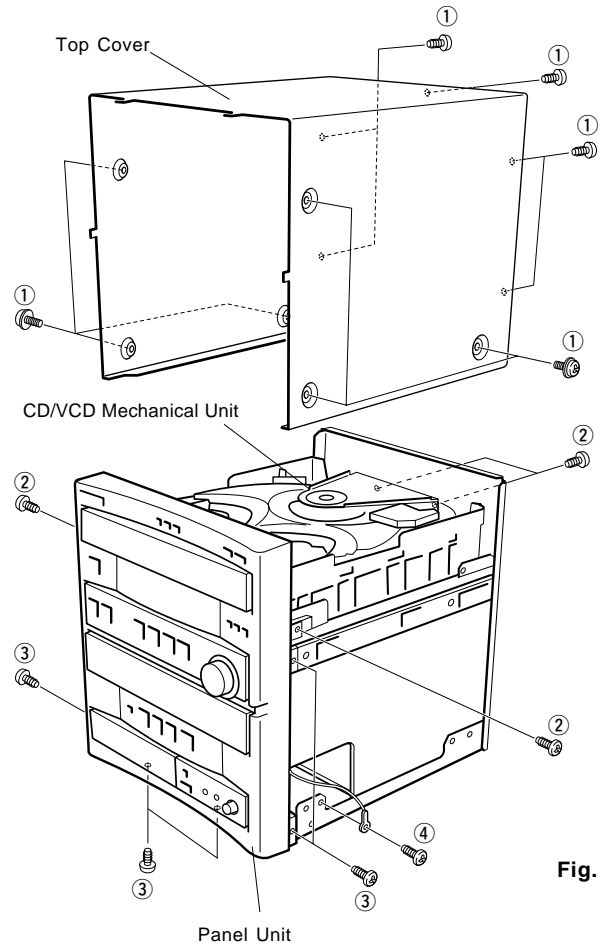
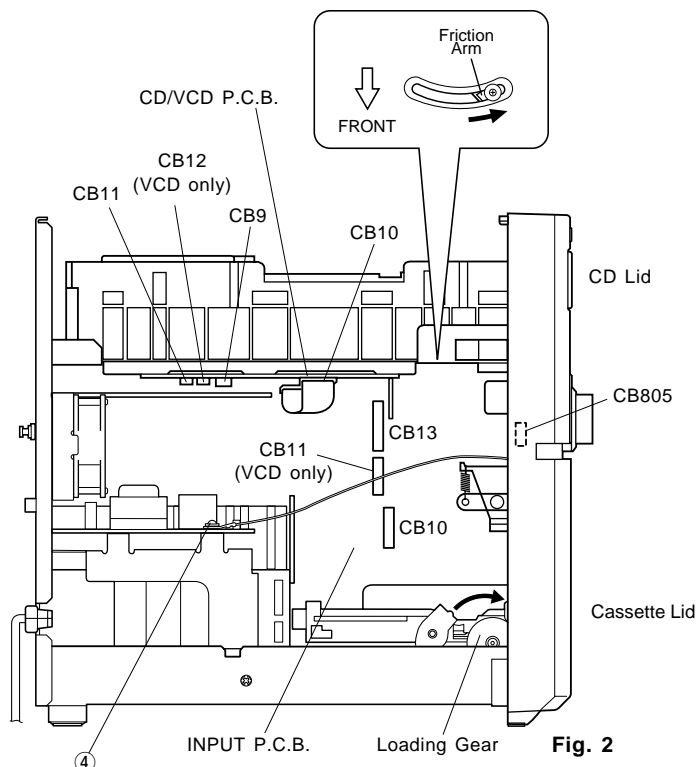

Fig. 1
Fig. 2
Remove 11 screws (①) in Fig. 1.
- Push the Friction Arm (the bottom side of the CD/VCD Mechanical Unit) with a finger as shown in Fig. 2.
- Pull the Tray forward approx. 5cm (2") and remove the CD Lid in Fig. 2.
- Disconnect the Flat Connecting Cables (CB10) on the CD/VCD P.C.B. and remove 3 connectors (CB11, CB12 and CB9) on the CD/VCD P.C.B. in Fig. 2.
- Remove 4 screws (②) and then remove the CD Mechanical Unit in Fig. 1.
- Rotate the Loading Gear, then open the Tray and remove the Cassette Lid in Fig. 2.
- Disconnect the flat connecting cables (CB10, CB13 and CB11) on the INPUT P.C.B. and remove a connector (CB805) in Fig. 2.
- Remove 5 screws (③) and 2 screws (④), and then remove the Panel Unit in Fig. 1 and Fig. 2.
- k. Connect the flat connecting cables ( CB10, CB13 and CB11 ) and remove a connector ( CB805 ) in Fig. 2.